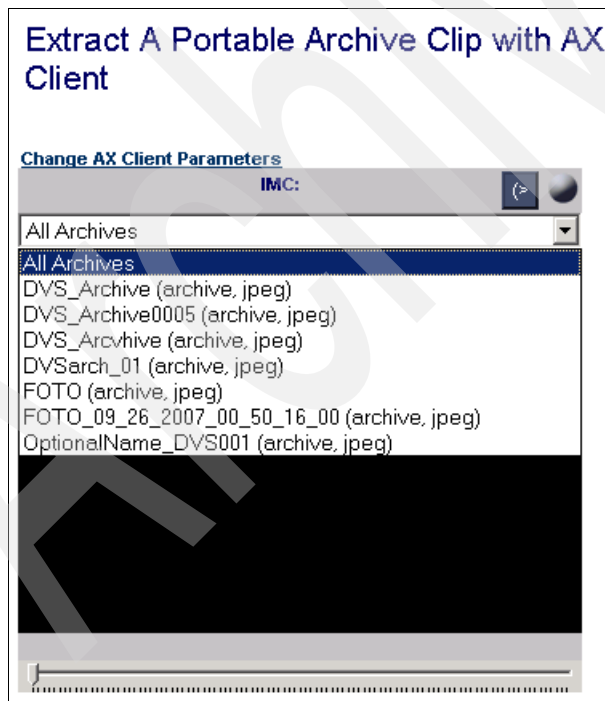

Figure 8-48 Extract a clip with AX Client page
1. When you get into this page, from the pull-down menu, choose an archive. You will extract a clip from that archive. In Figure 8-48, we use archive 'OptionalName\_DVS001'.